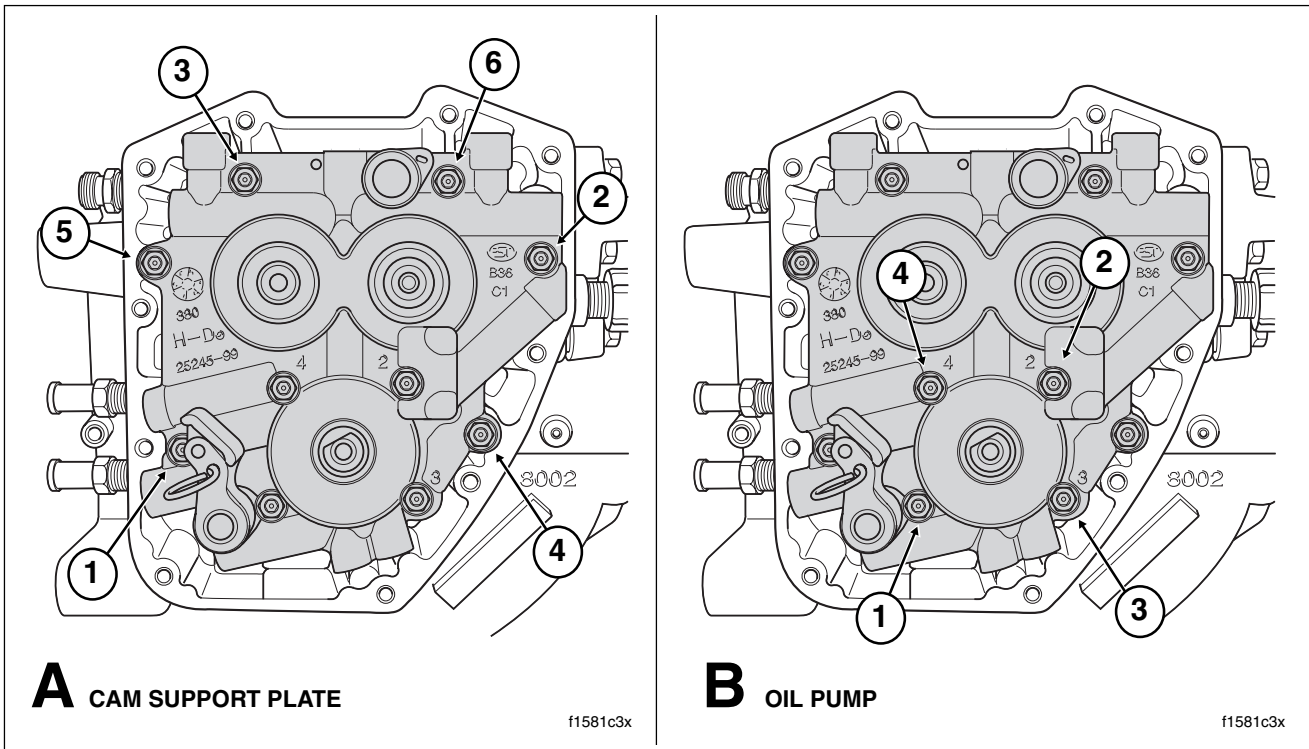

Figure 3-50. Cam Support Plate/Oil Pump Torque Sequence
11. Release the cam support plate from the oil pump flange. Alternately loosen and then remove the four allen head socket screws following the pattern shown in B of Figure 3-50.
12. Release the cam support plate from the crankcase flange. Alternately loosen and then remove the six allen head socket screws following the pattern shown in A of Figure 3-50.
17. Install the six allen head socket screws (1/4 x 1 inch) to secure the cam support plate to the crankcase flange. Tighten screws to 90-120 **in-lbs** (10.2-13.6 Nm) in the pattern shown in A of Figure 3-50.
- a. Start two allen head socket screws (1/4 x 1 inch) into holes 3 and 4. See B of Figure 3-50.
- g. Final tighten all four screws to 90-120 **in-lbs** (10.2-13.6 Nm). Use the pattern shown in B of Figure 3-50. Numbers cast adjacent to the bolt holes also indicate the oil pump torque sequence.
If only realigning the oil pump, first loosen all screws following the pattern shown in B of Figure 3-50. Remove screws from holes 1 and 2 and then follow the alignment procedure starting at step 18(b).